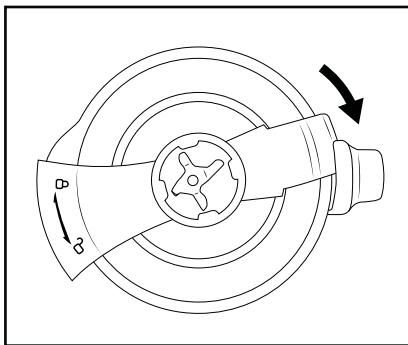

Fig. 3
- Twist the lid catch ⑭ clockwise by 90° (towards ⑮).
The lid catch ⑭ will slide over the spout on one side and into the handle of the blender ⑯ on the other (fig. 3).